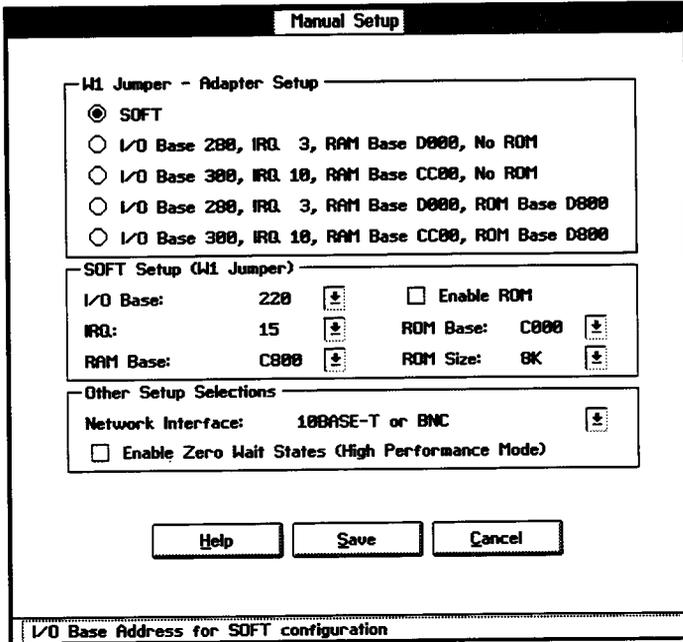

Figure A-2. Manual Setup Screen
4. From the EZStart main screen, select **Manual Setup** (see Figure A-1). The Manual Setup screen in Figure A-2 appears.